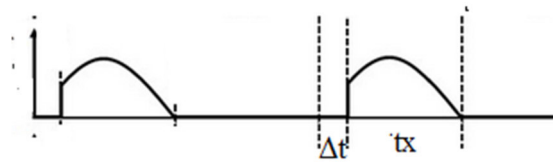

Figure 2.7: Measuring tx and Δt for Single Phase Halfwave Controlled Rectifier
- Measure the value of tx using cursor option in the oscilloscope as shown in the Figure 2.7